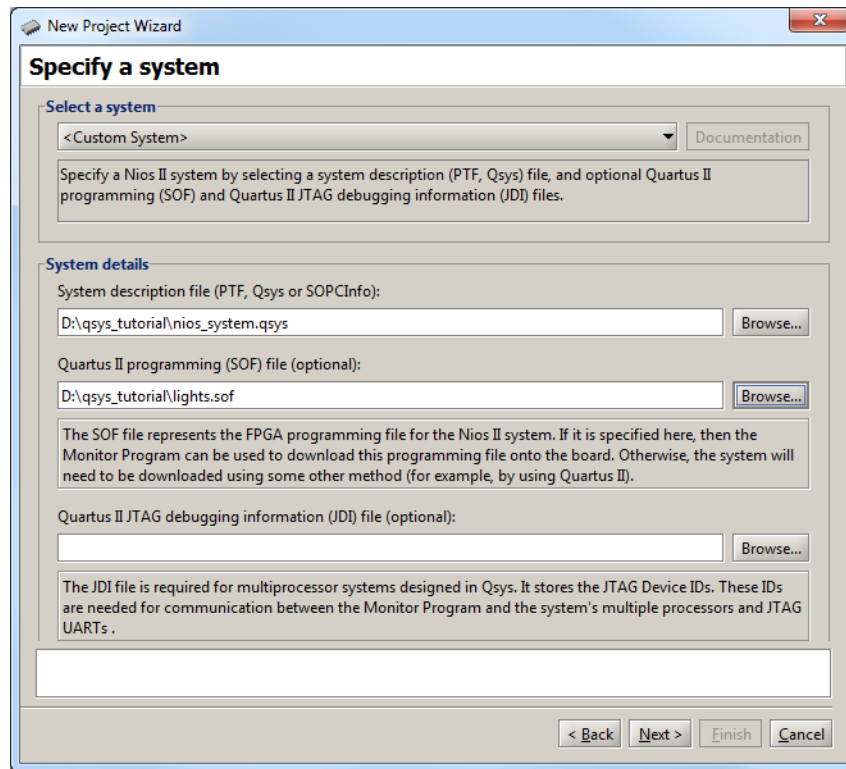

Figure 28. The System Specification window.
2. Enter *lights_example* (or some other name) as the Project name and click **Next**, leading to Figure 28.
Select the *lights.sof* file in the **Quartus II programming (SOF) file** field, which provides the information needed to download the designed system into the FPGA device on the DE-series board. Click **Next**, which leads to the window in Figure 28.